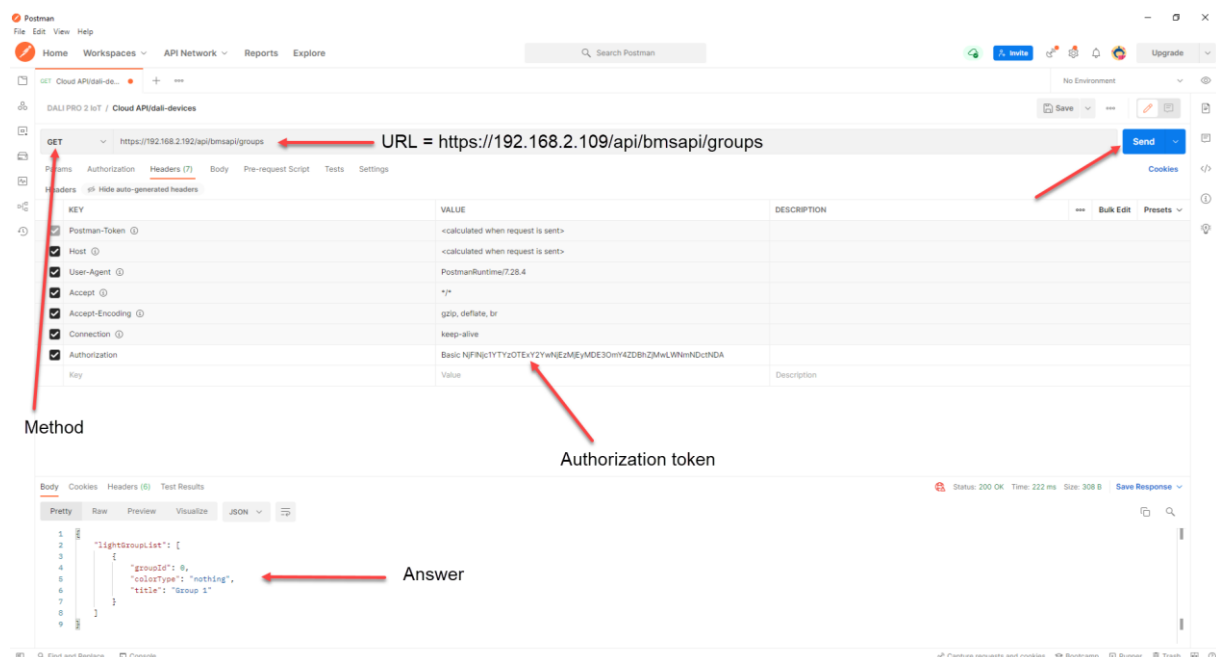

Figure 11
5. The answer from the DALI PRO 2 will appear in the bottom of the *Postman* window (see Figure 11).